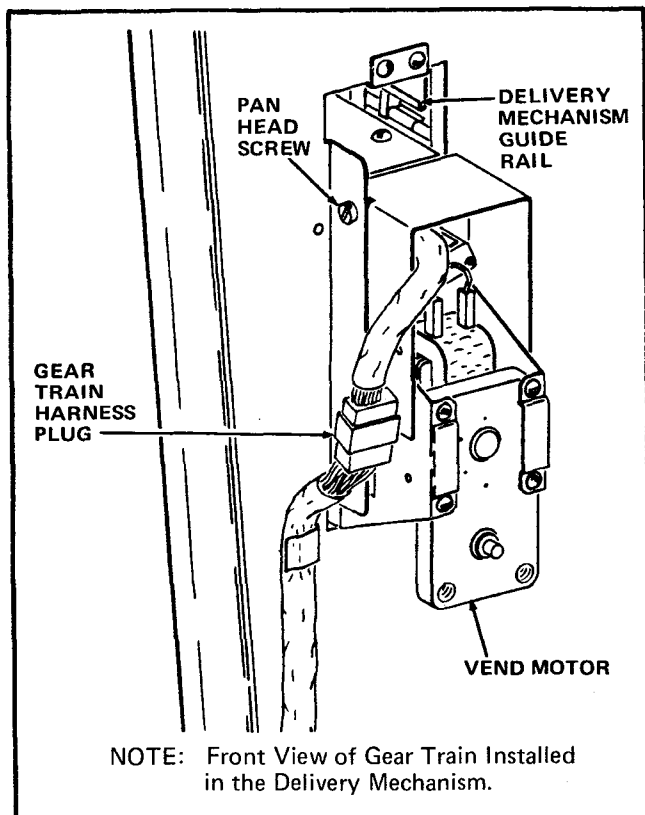

FIGURE 2
- d. Disconnect the Gear Train Harness Plug from its receptacle. See Figure 2.
- g. Carefully raise the Gear Train by grasping both ends and position the Formed Edge of the Gear Train Channel into the Delivery Mechanism Guide Rail. See Figures 2 and 3.
- a. Place the Gear Train Assembly on the Delivery Mechanism Guide Rail and slide the Gear Train Assembly in the Delivery Mechanism. See Figure 2.
- d. Connect the Gear Train Harness Plug to its receptacle. See Figure 2.